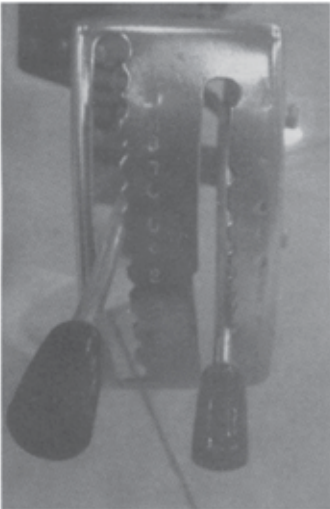
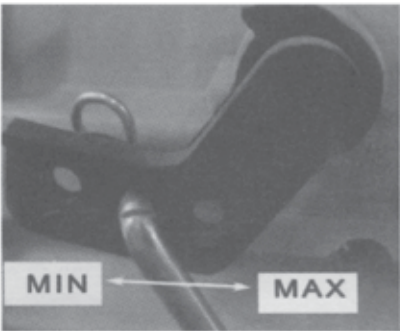

Fig 11
Fig 12
(2)Dusting.Regulate the discharge by shifting the dust rod's position in the three holes of the rock-arm.See Fig.11 and Fig.12.